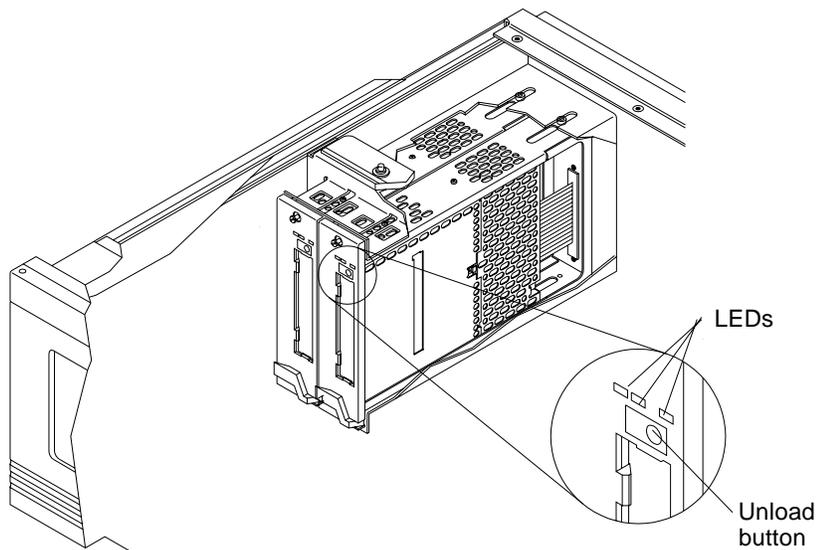

FIGURE 5-1 Location of the Unload Button
- b. **Push the Unload square button on the tape drive (FIGURE 5-1).**